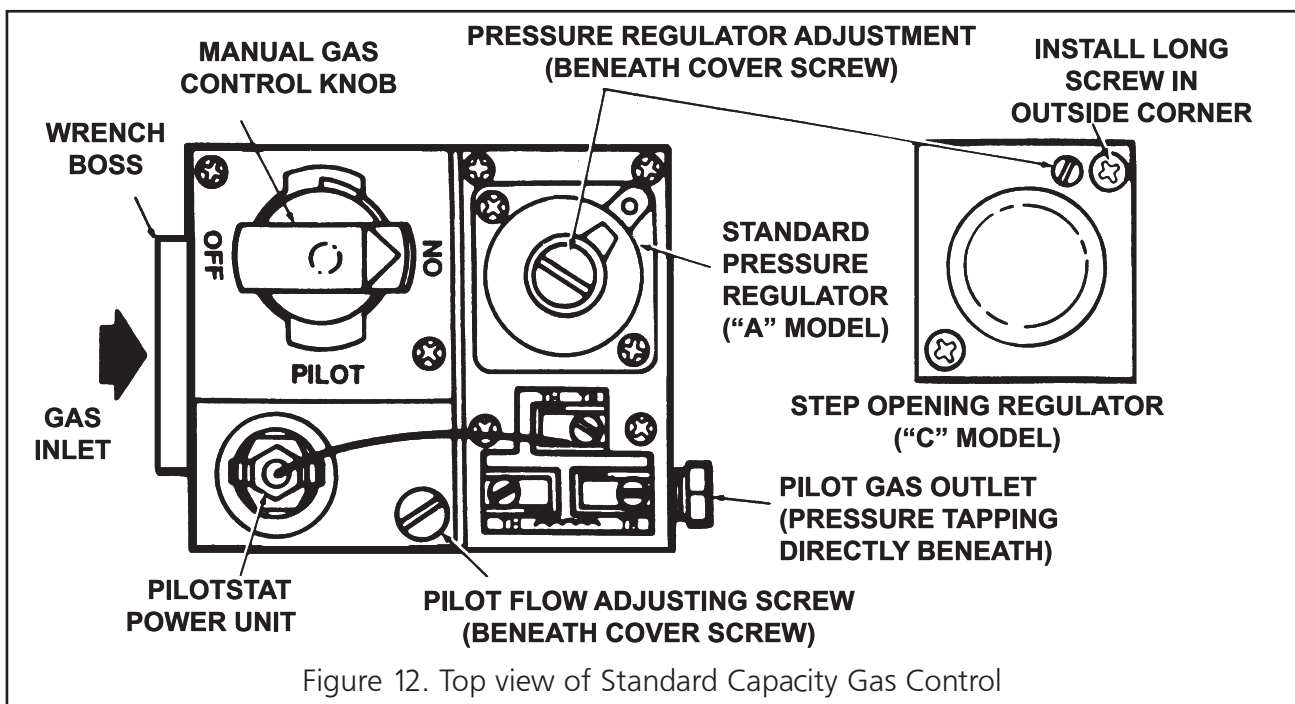

Figure 12. Top view of Standard Capacity Gas Control
- A. Remove pilot adjustment cover screw. Refer to Figure 12.
Pilot gas flow adjustment screw may be closed	Open and adjust (see Figure 12)